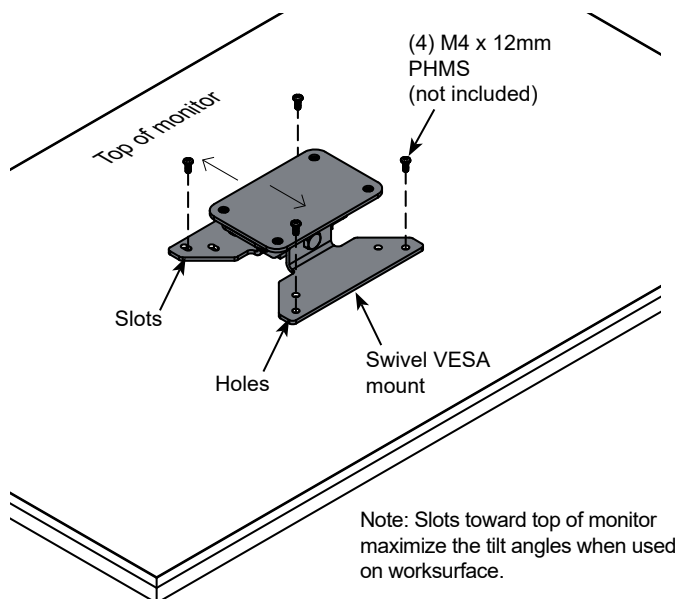
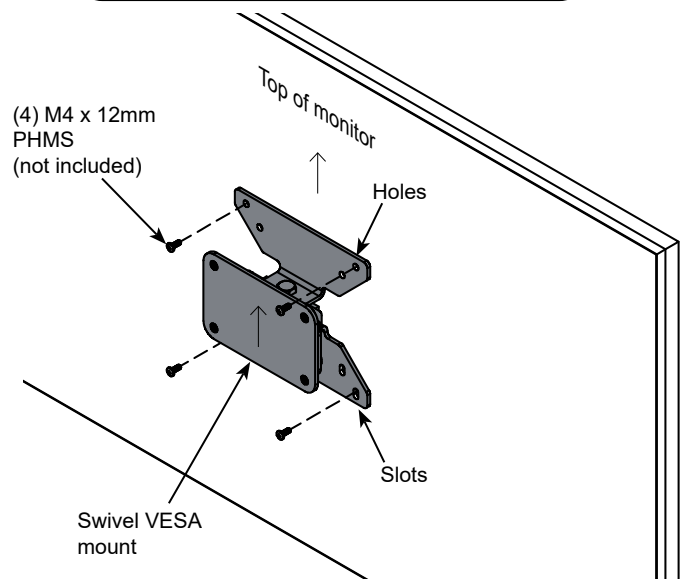

Figure 1.1
Figure 1.2
1. Choose attachment method. Horizontal **Figure 1.1** or vertical (audience-side panel) **Figure 1.2**.
2. Attach the VESA mount (butterfly-shaped portion) to the back of your flat panel monitor with (4) M4 x 12mm PHM screws. **4mm screws not included.** Note orientation of holes and slots with the top of the monitor in each method.